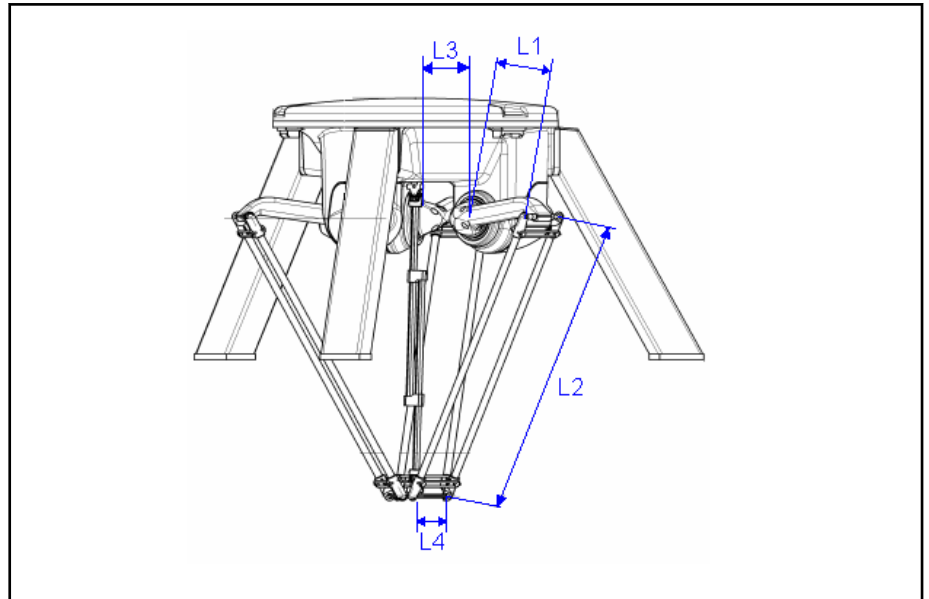

Fig.4-11: Schematic view of 3-axis delta with 1 optional orientation axis
- fig. 4-11 "Schematic view of 3-axis delta with 1 optional orientation axis" on page 85 shows a delta robot at zero position of all axes, i.e. if the robot is in the position shown in the figures, the machine coordinates (MCS) for all of the axes have to be zero.